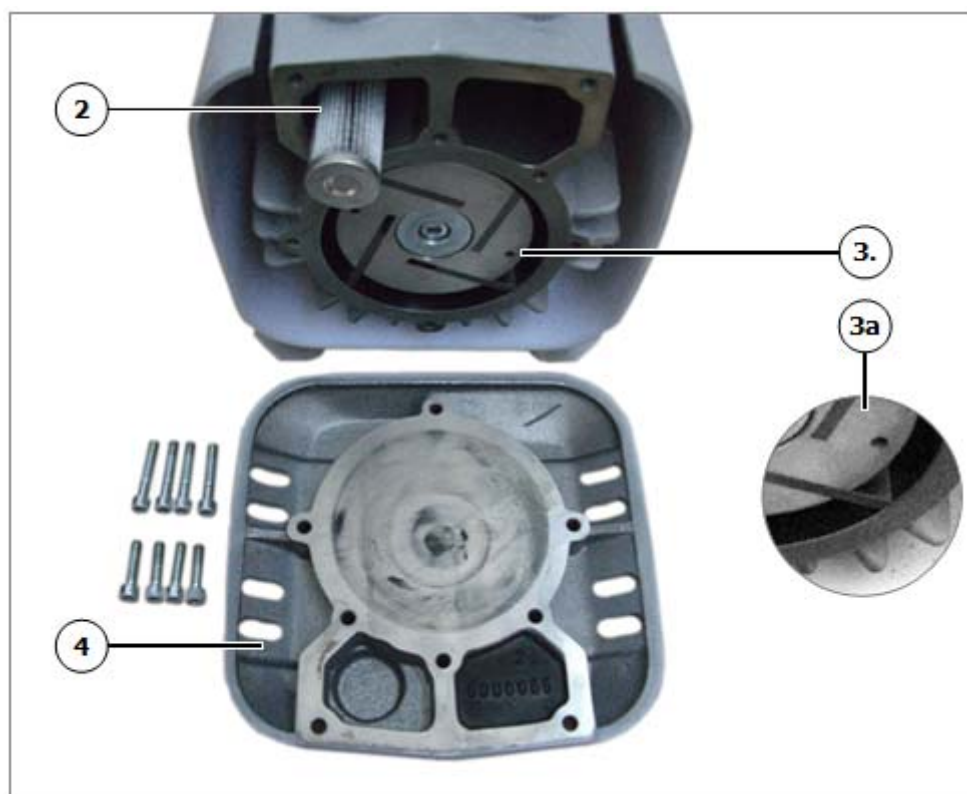
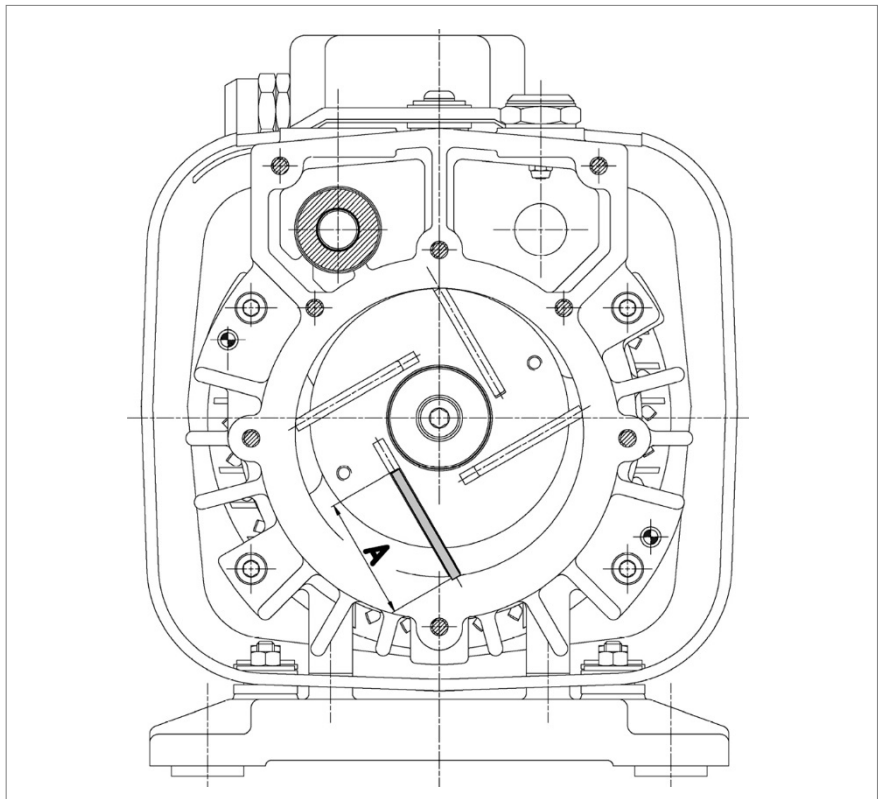

Fig. 9 Case opened
Fig. 10 Minimum blades A
- Remove the cartridge filter, Fig. 9 item 2,
- blades for inspection see, Fig. 9 item 3,
The slanting side of the blade must show to the outside and the slant in the rotation direction must coincide with the motion of the housing boring, see detail Fig. 9 , item 3a and Fig. 10 .
Fig. 9 Case opened.....	20
Fig. 10 Minimum blades A.....	21